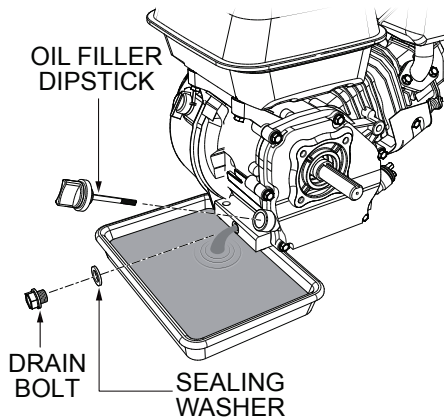

Figure 52. Draining Engine Oil
1. Remove the drain bolt and sealing washer, and allow the oil to drain into a suitable container (Figure 52).